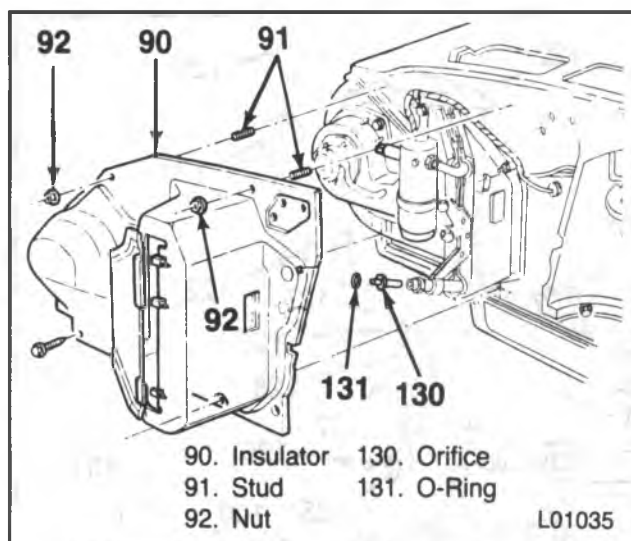

Figure 40 — Dash Panel Insulator Removal
2. Insulator (Diesel Engine) (figure 40).
3. Blower motor lead and ground wires (134).
4. Blower motor cooling tube (133).
5. Blower motor lead and ground wires (134).
6. Insulator (Diesel Engines) (figure 40).